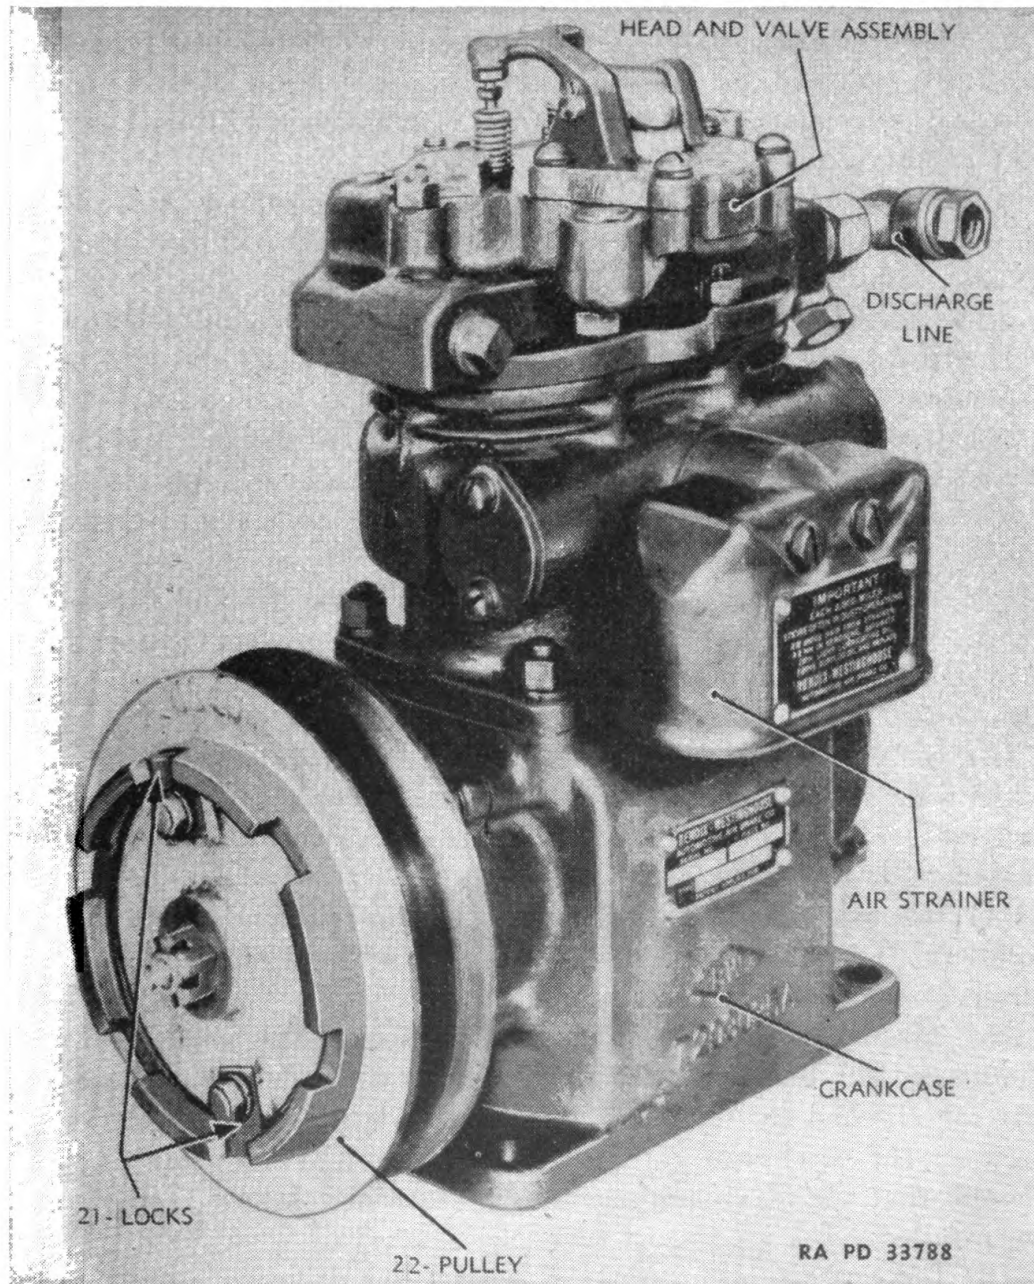

FIGURE 72.—Air compressor.
65. Maintenance.—Inefficiency of the air compressor (fig. 72) is usually due to defective unloader valves (fig. 73), discharge valves, worn rings or cylinders, or carbon accumulations. Periodic inspections should be made for the purpose of replacing parts that are unserviceable as the result of wear and to remove carbon accumula-
72. Belt adjustment.—*a.* The compressor has a pulley with an adjustable outer rim (22) (fig. 72). The V-belt should be put in place and the outer rim adjusted until a satisfactory belt tension is obtained. The belt should not be too tight, as this will place excessive load on the shaft bearings; nor should the adjustment be too loose, as it will cause the belt to slip.
b. After the desired belt tension has been obtained, place the two locks (21) in place in the slots provided in the outer rim and pulley hub. Fasten in place with capscrews.